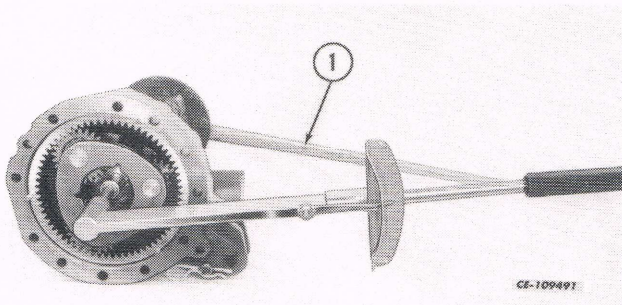

Fig. 17
20. Install the 5/8 NF cap screw that secures the planet carrier to the axle. Use a bar on the axle to hold it while torquing the cap screw to 339 N·m (250 ft-lbs) as shown in Fig. 17.